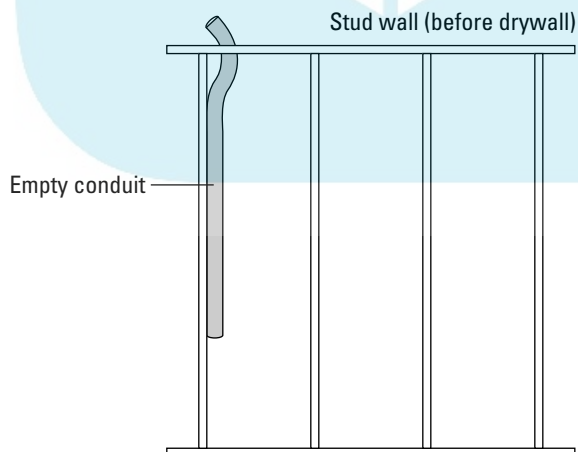

Figure 2-2:
- ✓ **Run conduits:** Think about access and flexibility for future growth when you run your wires. You never know when you're going to have to run more cable for some reason or another. Run PVC conduits between floors and in the walls, instead of just running wire, so you can add more cable in the future if you need to. Be cognizant of elbows in these PVC runs — cable, especially thicker cable, does not travel well around corners. Figure 2-2 shows how this might work. Leave pull cords in the conduit. (*Pull cords* are cords that you use to pull cables through that conduit.) Also be careful about what you run in the same conduit — some signals running inside cables can interfere with each other. Never run electrical wiring inside these PVC conduits no matter how much money it saves you.